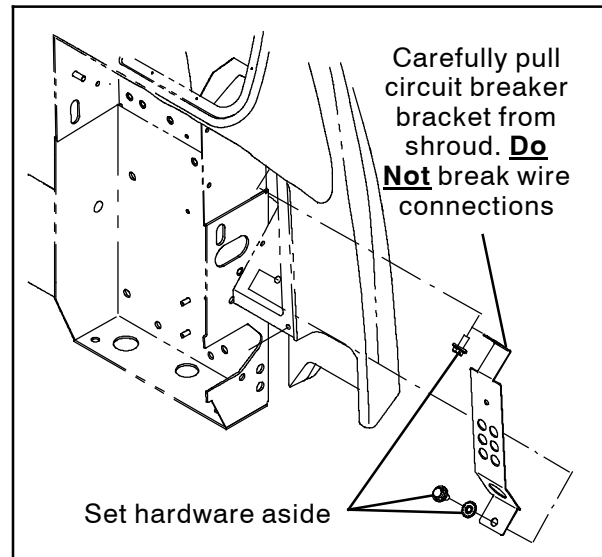

FIG. 12
36. Carefully pull the circuit breaker bracket out far enough to access the main wire harness connectors located behind the bracket. **Do Not** break any wire connections. (Fig. 12)
39. Reinstall the circuit breaker bracket onto the machine. (Fig.12)